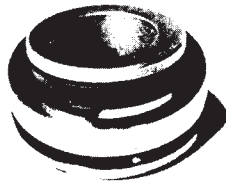

Figure 10
Step 5 — Insert stationary seat into the stationary seat carrier and place the “O” ring gasket onto the stationary seat carrier. (Fig. 10).